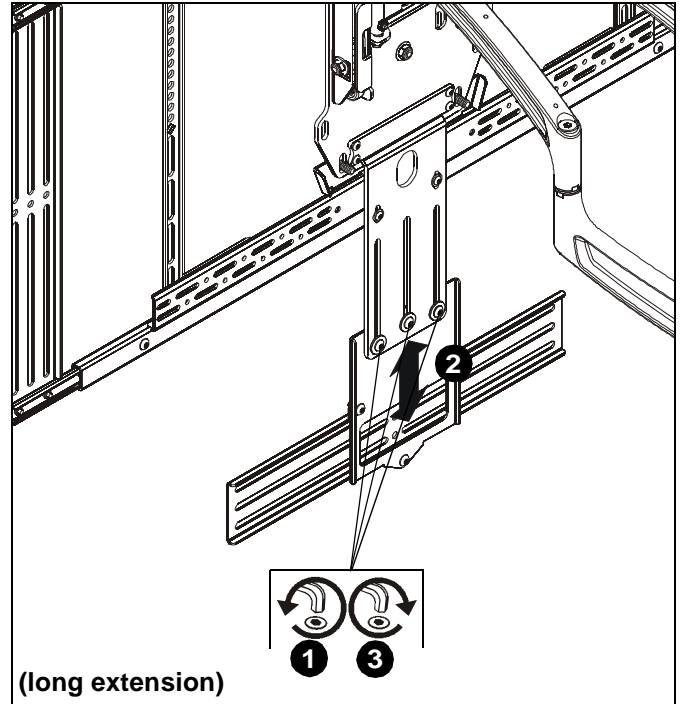
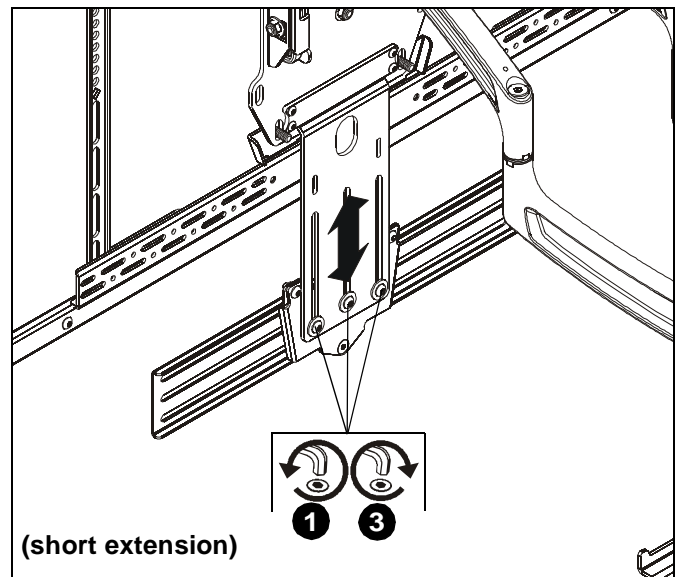

Figure 11
Figure 12
1. Loosen three 1/4-20 x 3/8" button head cap screws (E) holding extension bracket (C or D) to attachment bracket (A). (See Figure 11)
2. Adjust height of center speaker bracket (B) as desired. (See Figure 11)
3. Tighten three 1/4-20 x 3/8" button head cap screws (E) holding extension bracket (C or D) to attachment bracket (A). (See Figure 11) or (See Figure 12)